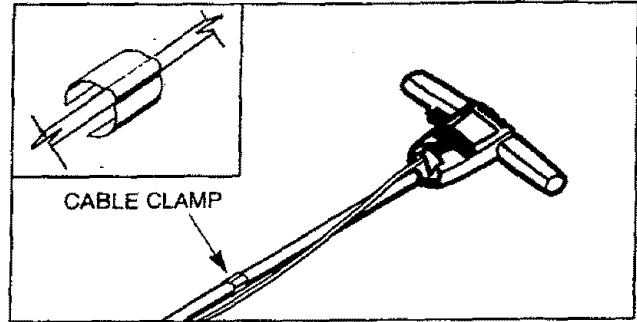

Figure 2
- Install the cable in the cable clamp locating groove. Fig 2.
- Align the cable clamp between screws. Install the cable clamp around the tube and throttle cable. Figure 2.